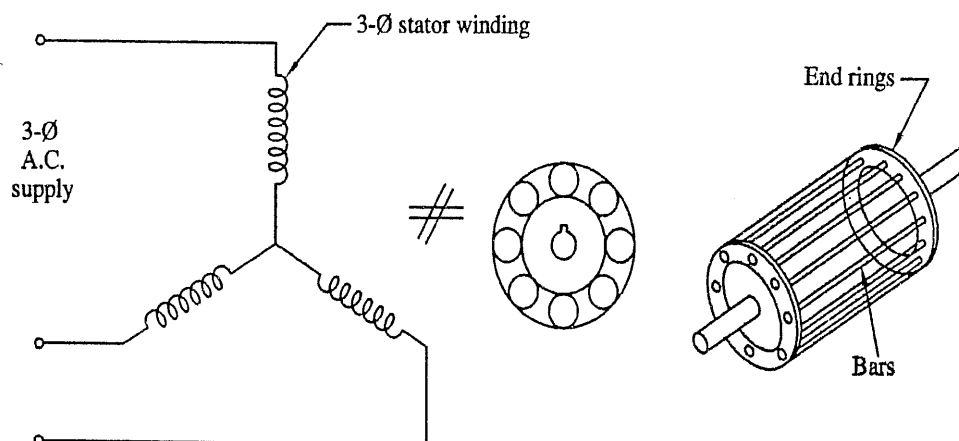

FIG. 4.9 : SQUIRREL CAGE INDUCTION MOTOR
- Fig. 4.9 shows the schematic arrangement of squirrel cage rotor.